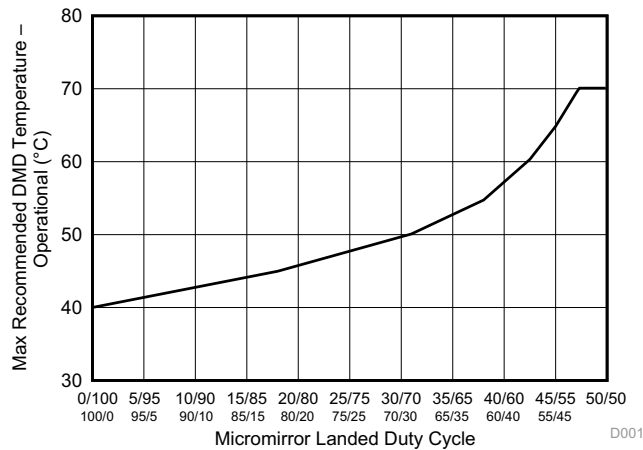

Figure 1. Max Recommended DMD Temperature – Derating Curve
(15) Long-term is defined as the average over the usable life.
(16) Per Figure 1, the maximum operational case temperature should be derated based on the micromirror landed duty cycle that the DMD experiences in the end application. Refer to Micromirror Landed-on/Landed-Off Duty Cycle for a definition of micromirror landed duty cycle.
(17) Array temperatures beyond the specified long-term operational DMD temperature are recommended for short-term conditions only (for example, power-up). Short-term is defined as cumulative time over the usable life of the device and is less than 500 hours.